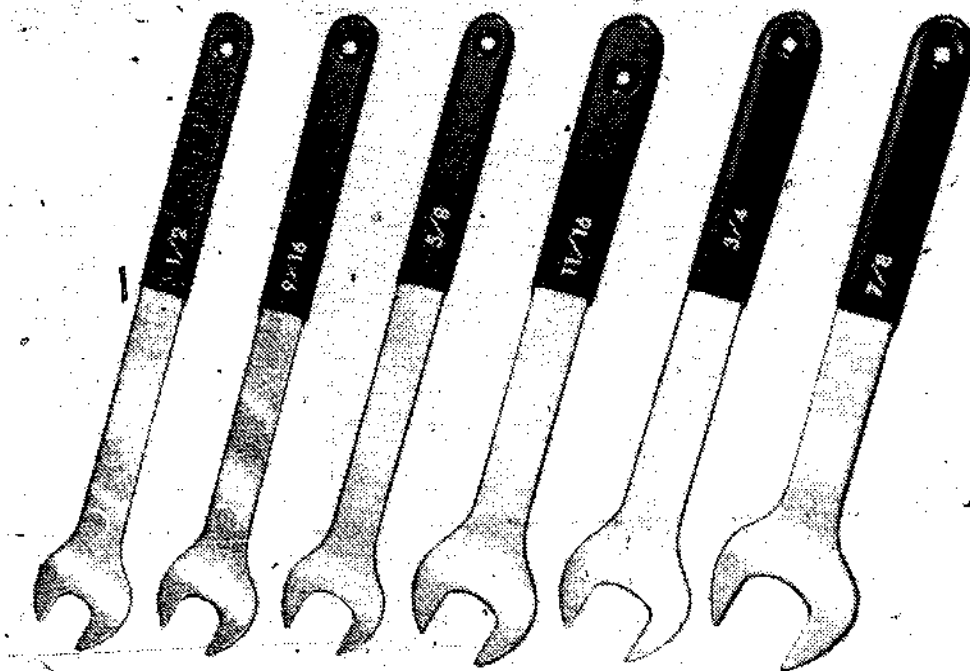
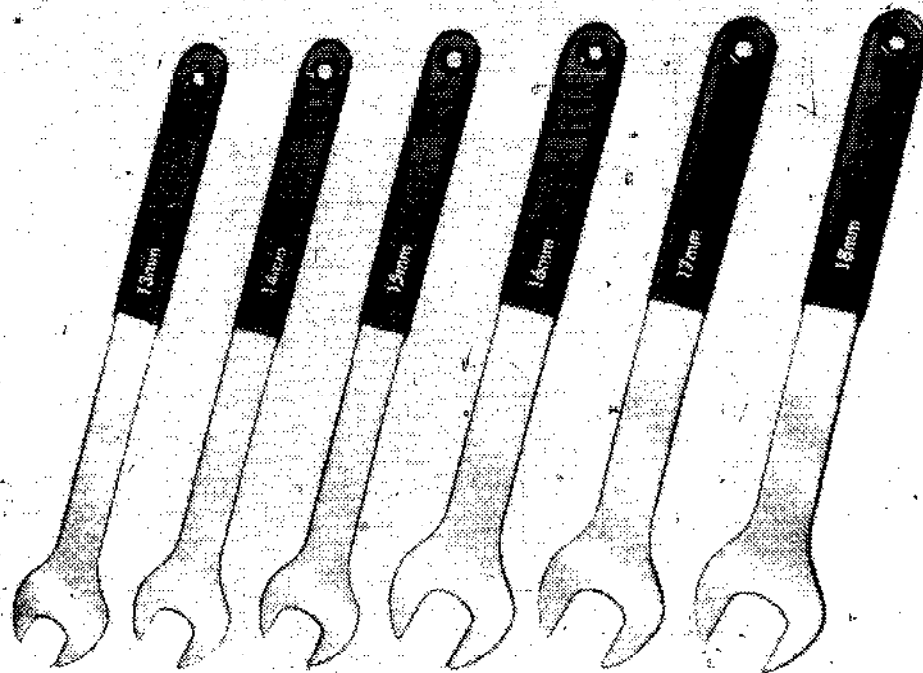

Fig. 4-1. Fractional-size cone wrenches for use on hub cones and lock nuts.
Fig. 4-2. A metric set of cone wrenches.
**Bicycle Wrenches.** Special flat bicycle wrenches, commonly called *cone wrenches*, are essentially extra thin open-end wrenches. As the name implies, they are designed especially for use on hub cones and lock nuts. Fig. 4-1 shows a set of fractional cone wrenches. Figure 4-2 shows a metric set.